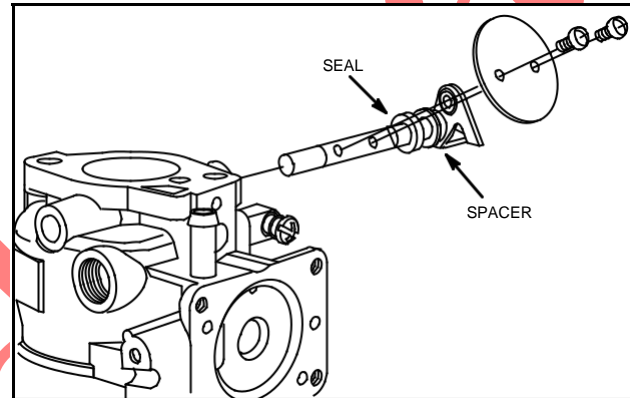

Fig. 29 – Install Throttle Shaft
5. Assemble new seal and spacer to throttle shaft and insert into carburetor body, Fig. 29.